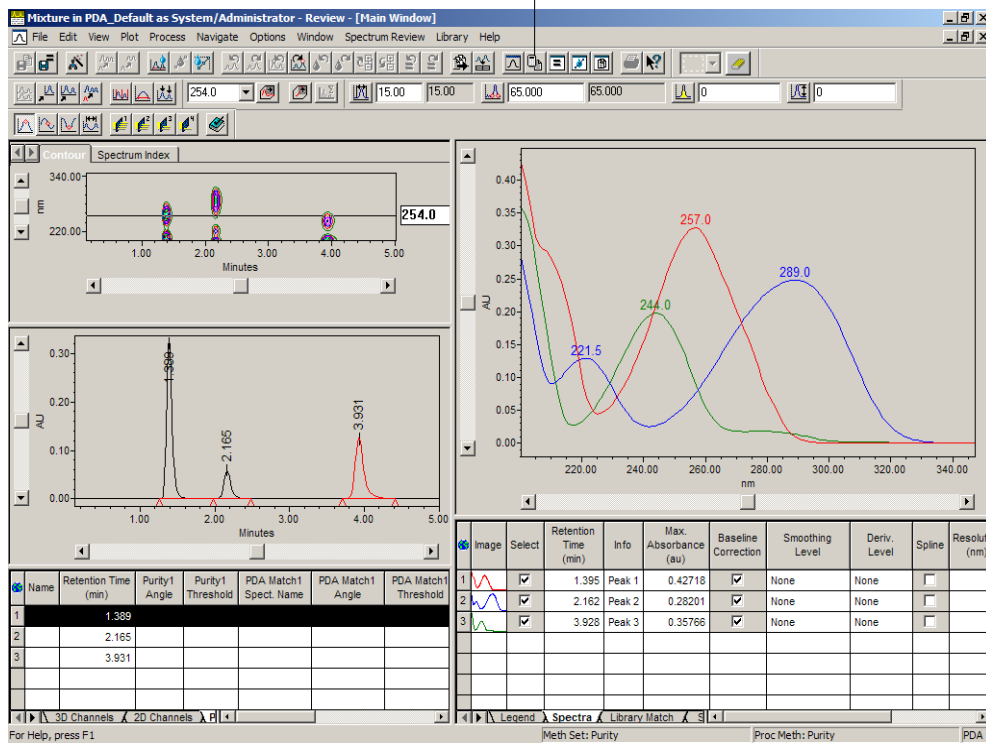

Figure 4-11 Integrated 254 nm Chromatogram of Mixture
3. In the Names list, select **Purity** or the method set that you created in Chapter 3. Peak Purity Processing, then click **Open**. The Purity method set is automatically applied to the data in the Review window. The chromatogram at 254 nm for Mixture appears in the Review Main window (Figure 4-11) and the apex spectra for the peaks appear in Spectrum Review.